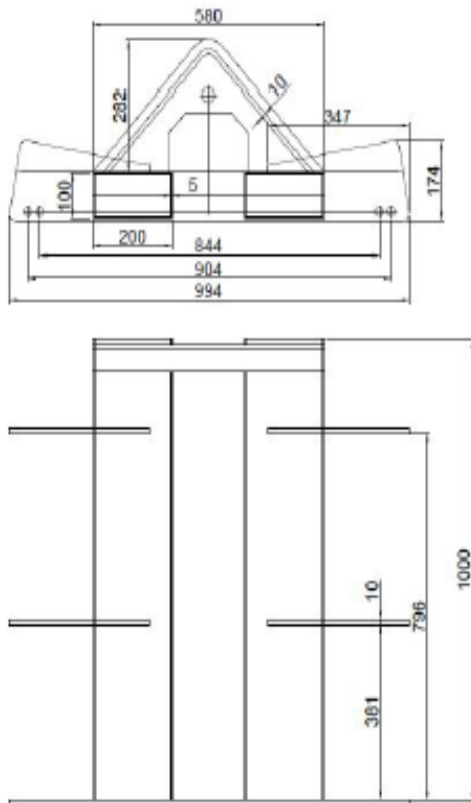

Fig:1 (Frame dimensions)
- It has to handle 100 kg weight to have 3 times safety margin considered. Dimensions of the frame will be as per below Fig:1.